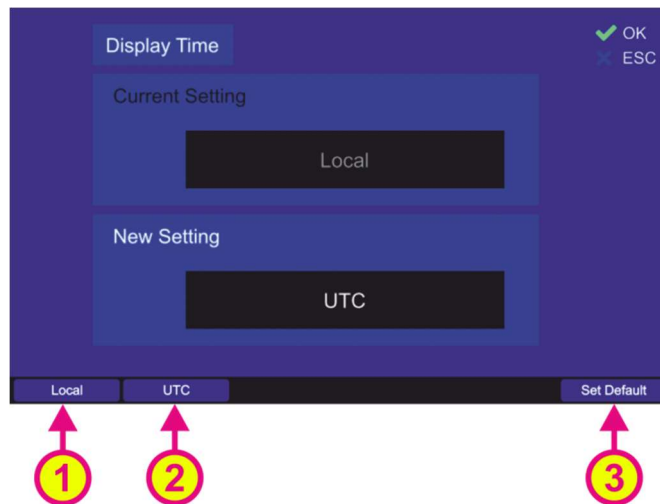

Figure 139. Changing the "Display Time" setting
- Choose the “Local” or “UTC” hotkey to set the desired variant of the time indication (s. Figure 139, positions 1 or 2).
- Use the “Set Default” hotkey (s. Figure 139, position 3) to reset the value to the default value (Local).